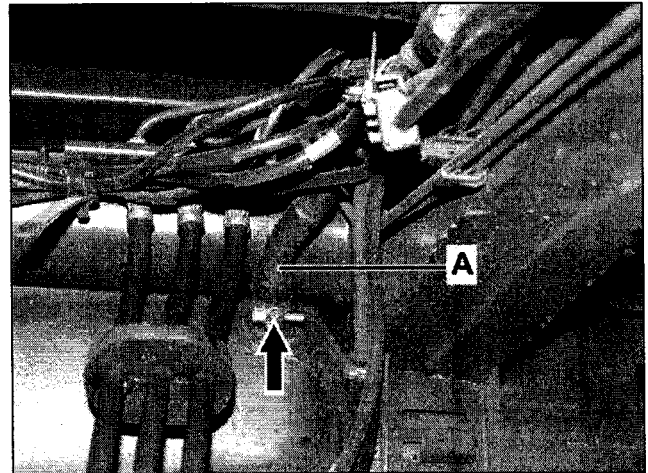

Figure 1
2. Loosen clamp (arrow, Figure 1), disconnect fuel return hose (A) from fuel tank fitting.